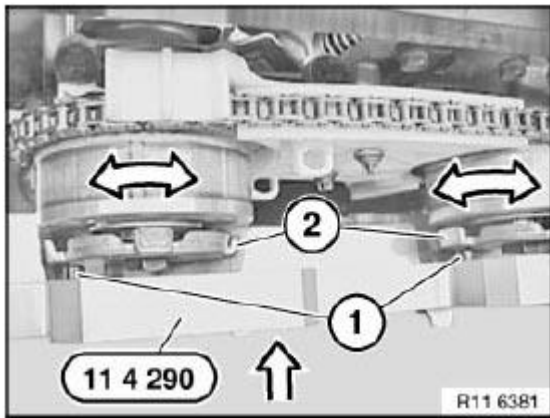

Fig. 217: Identifying Sensor Gears And Pins
Turn sensor gears (2) in direction of arrow until locating pins (1) on special tool 11 4 290 match up. See **Fig. 217**.